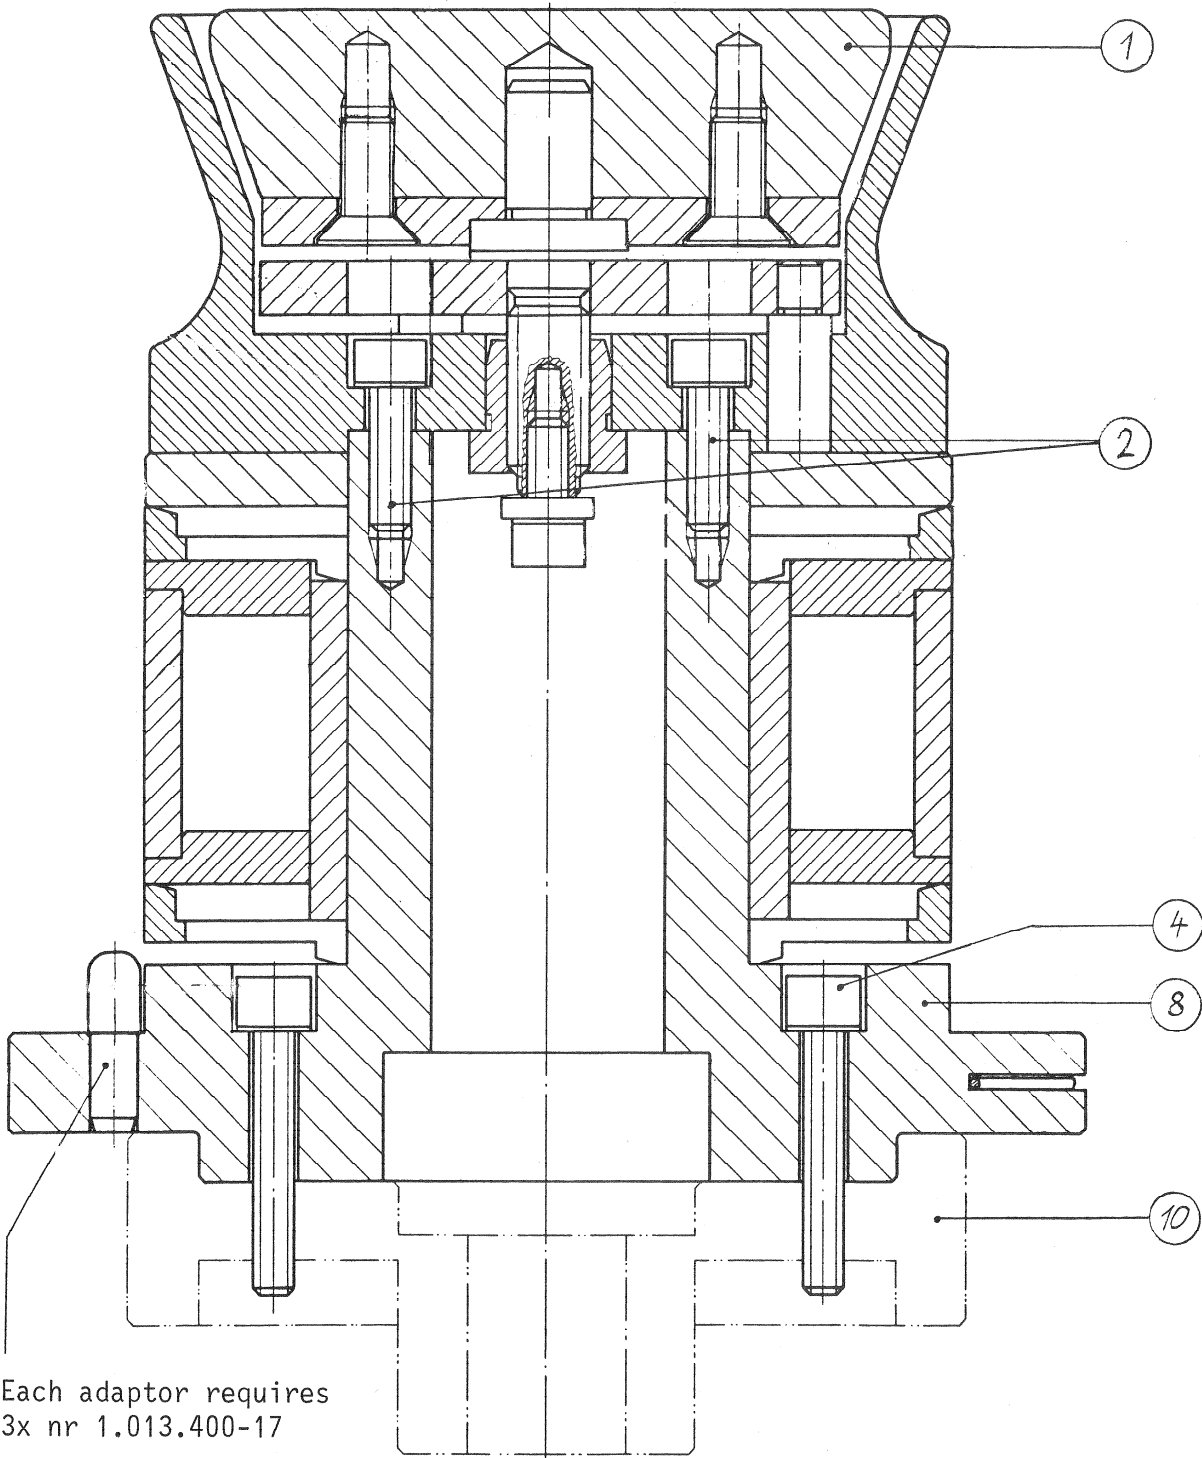

Figure 38
Turn screw grip (1) of the reel adaptor until the 4 Allen screws M 4 x 14 mm (2) become visible through the 4 holes.(see figure 38)